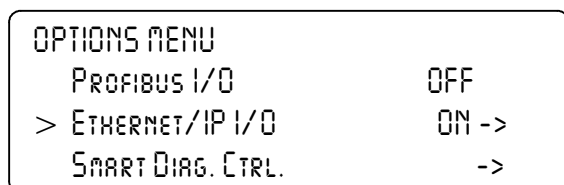

FIG. 67: OPTIONS/SELECTING ETHERNET/IP I/O
- Step 3. Press the Enter button. The Options submenu appears. (See Fig. 67)